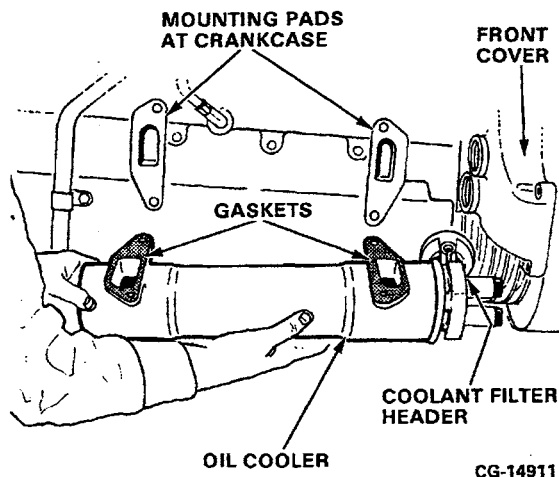

Figure 9.26. Remove Oil Cooler
**NOTE: It will be necessary to move the oil cooler and coolant filter header assembly rearward to free it from the front cover. Refer to Figure 9.26. Discard O-rings at front cover.**